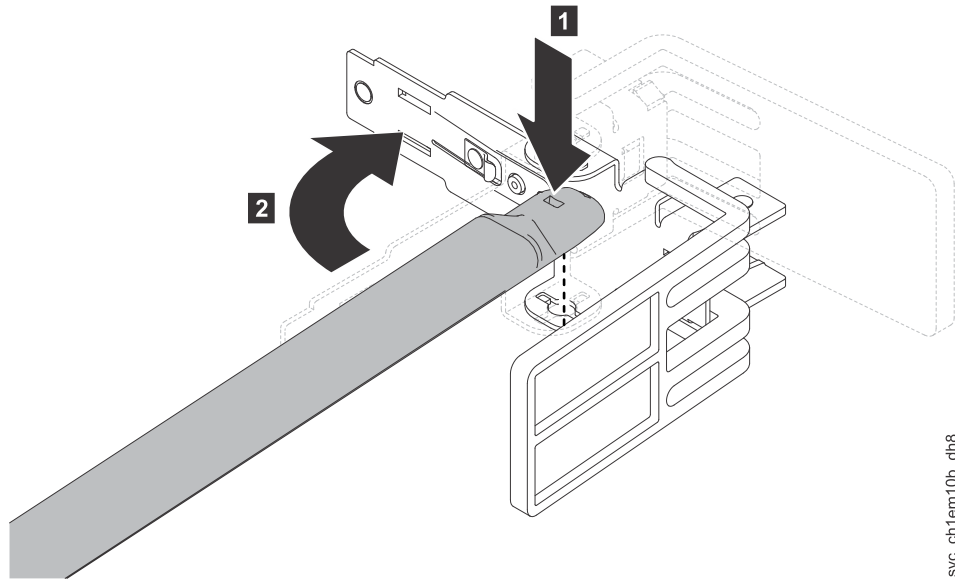

Figure 34. Connecting the cable management support bar to the stop bracket
4. Connect the other end of the support bar to the stop bracket, as shown in Figure 34 on page 44.